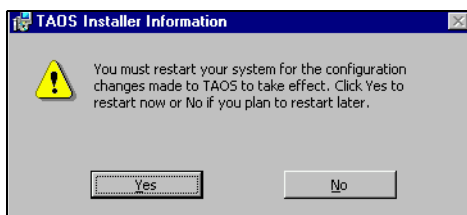

Figure 7-13 Click Yes.
14. Click **Yes** to reboot the system (Figure 7-13).